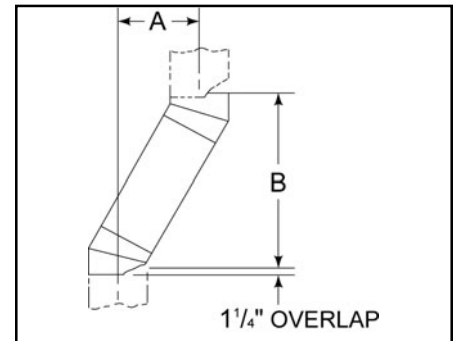

Figure 7 - Chimney Offset/Return
- 1) Measure how far the chimney needs to be shifted to enable it to avoid the overhead obstacle. See Figure 7, dimension "A" to determine chimney sections required to achieve the needed shift.
**Example:** Your "A" dimension from Figure 7 is 141/2". Using Table 1 the dimension closest to, but not less than 141/2" is 145/8" using a 30° offset/return. It is then determined from the table that you would need 33" (Dimension "B") between the offset and return. The chimney components that best fit your application are two SL1112s.